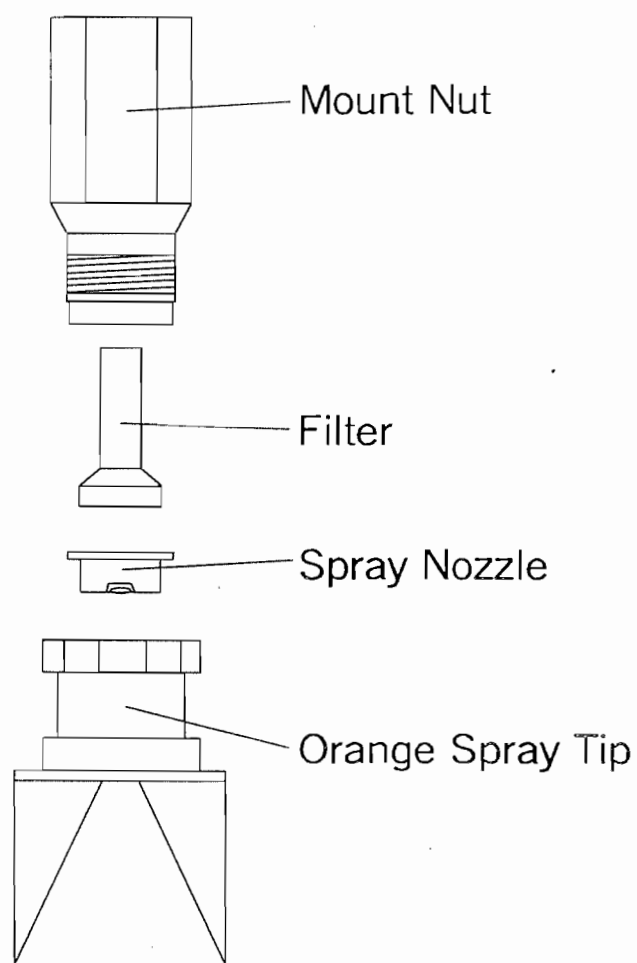

Figure 2.11.1: Nozzle Unit
2.11.2 Assemble the nozzle unit, as shown in Figure 2.11.1.